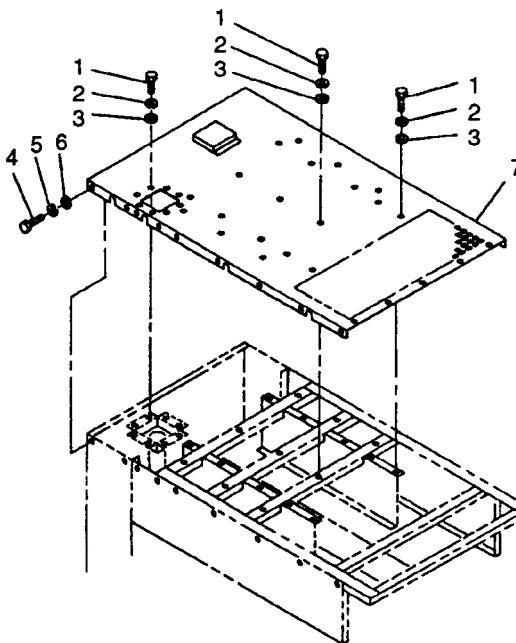

FIGURE 3-1. Top Housing Panel
- f. Remove bolts (1 and 4, FIGURE 3-1), lockwashers (2) and (5), washers (3) and (6), and top housing panel (7) from generator set.